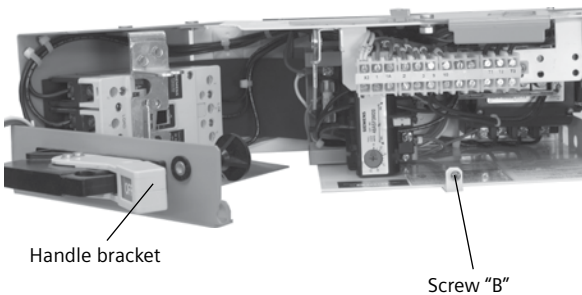

Figure 67
2. Loosen screw "B" shown in Figure 67.